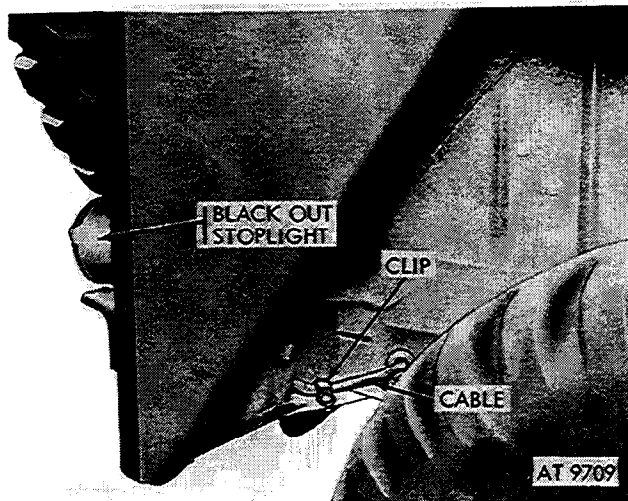

Figure 2-260. Disconnect connector at blackout stoplight.
(12) Remove cable from clip and disconnect connectors at blackout stoplight (fig. 2-260) (M151, M151A1, M151A1C, and M718 vehicles).